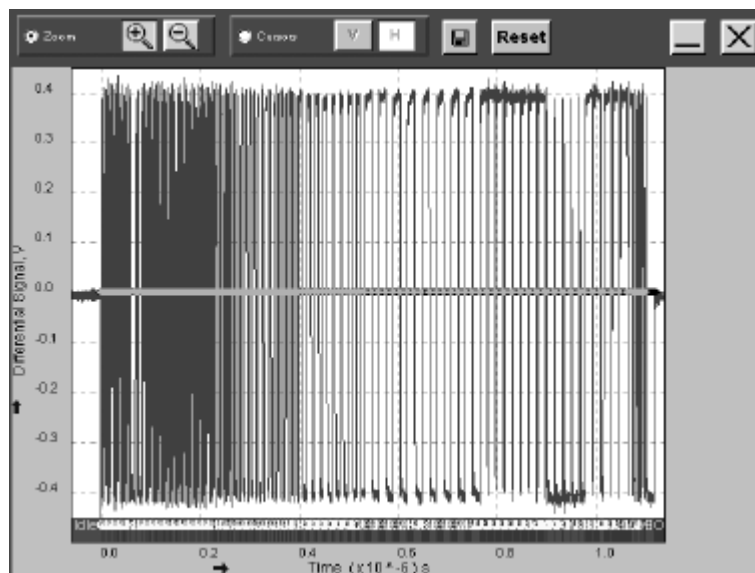

Figure 2-80: Eye diagram for high speed signal quality tests
5. Click on the Waveform Plot to view the waveform plot. . Figure 2-80 shows the waveform plot for high speed signal quality tests.